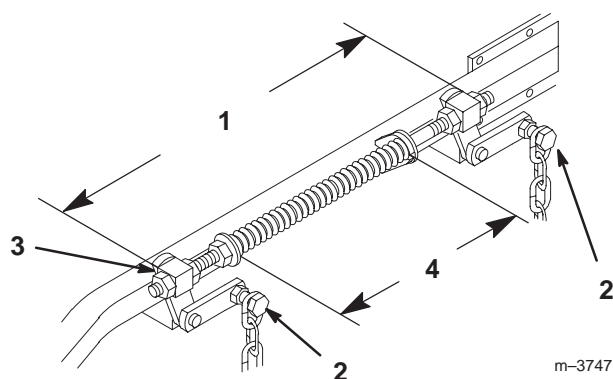

Figure 64
- Loosen four (4) top chain bolts in slots. Check the length of the rod/swivel assemblies. Distance from outside of rear swivel to outside of front swivel should be 19–17/32 inch (496 mm) (Fig. 64). Make sure that all four swivels move freely in holes.
2. Springs are compressed so the distance between the two large washers should be 10-1/4 inch (260 mm) (Fig. 64).
3. Adjust by turning nut in front of each spring (Fig. 64). Clockwise will shorten spring; counter-clockwise will lengthen spring.